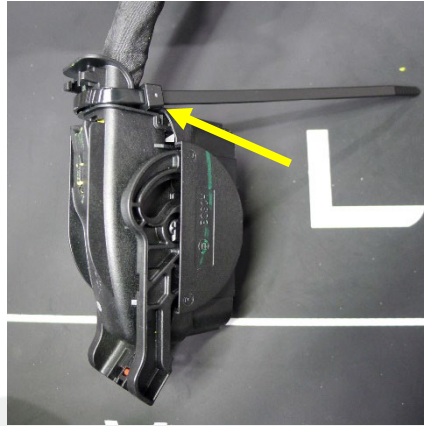

Figure 27
23. Fasten a small cable tie to the rear of connector X151 to secure the rear cover (Figure 27), and then trim the tie.